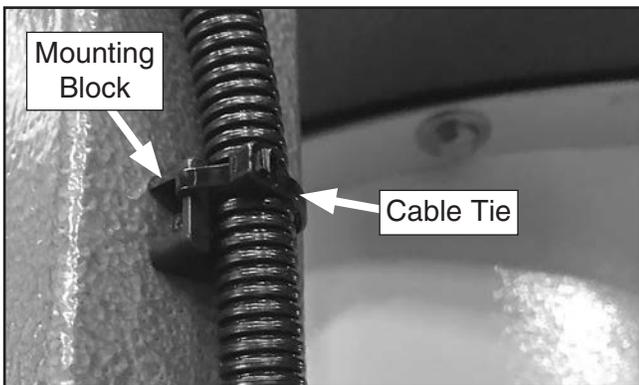

Figure 37. Conduit secured to mounting block with cable tie (1 of 4 locations shown).
39. Secure conduit to mounting blocks using cable ties (see **Figure 37**).